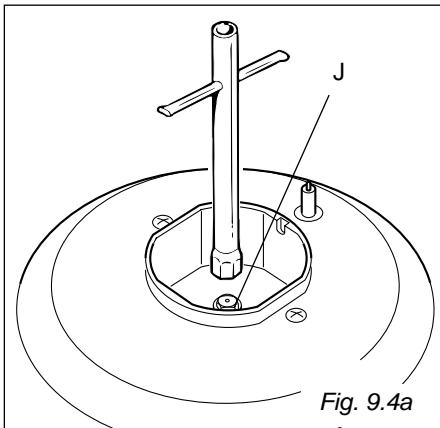

Fig. 9.4a
- Using a wrench, substitute the nozzle injectors "J" (fig. 9.4a, 9.4b) with those most suitable for the kind of gas for which it is to be used.